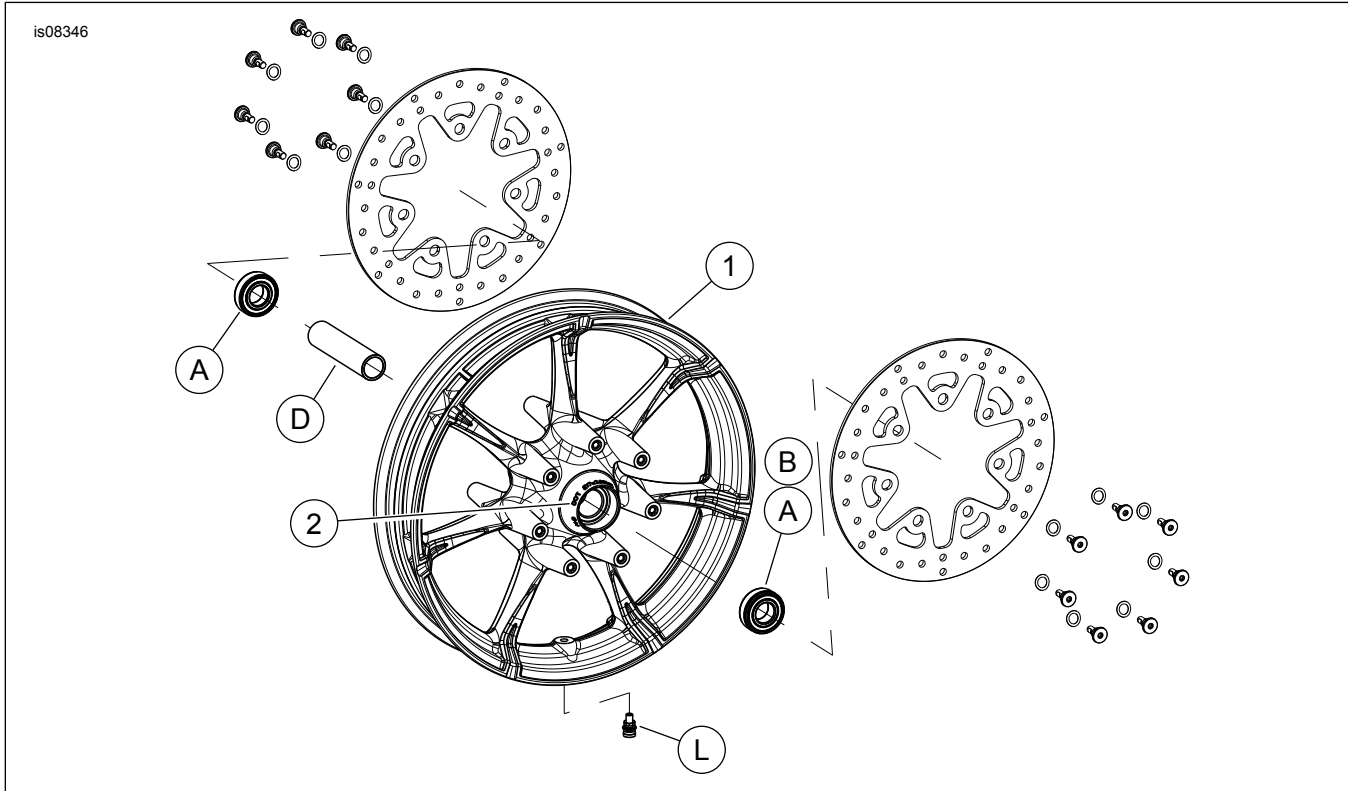

Figure 1. Service Parts: Front Slicer Wheels
See Figure 1 and the Service Parts Tables.
2. See Figure 1. Install valve stem assembly (L) on wheel. See the service manual.